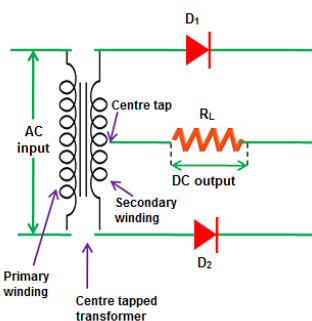

Figure NO.3: Center tapped full wave rectifier
**Center tapped full wave rectifier:** is a type of rectifier which uses a center tapped transformer and two diodes to convert the complete AC signal into DC signal. It is made up of an AC source, a center tapped transformer, two diodes, and a load resistor, as shown in Figure NO.3: